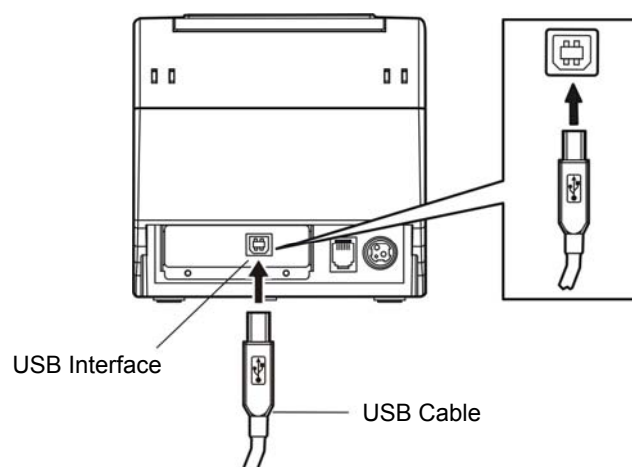

Fig2-4 Connecting the USB interface cable
1. Plug the USB cable A end (square shape) into the printer's USB connector as shown in Fig2-4.